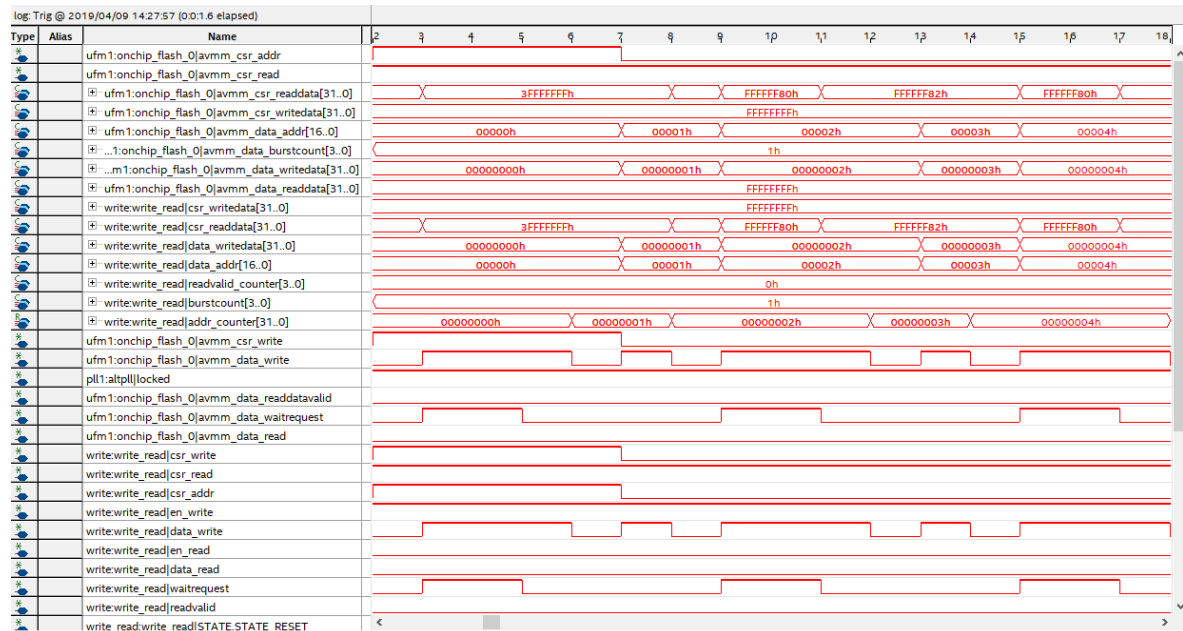

Figure 4: data\_writedata and data\_addr signals from Signal Tap during write operation
15. Burst count is set to 1 during write operation. Figure 4 shows the signals from Signal Tap during write operation.